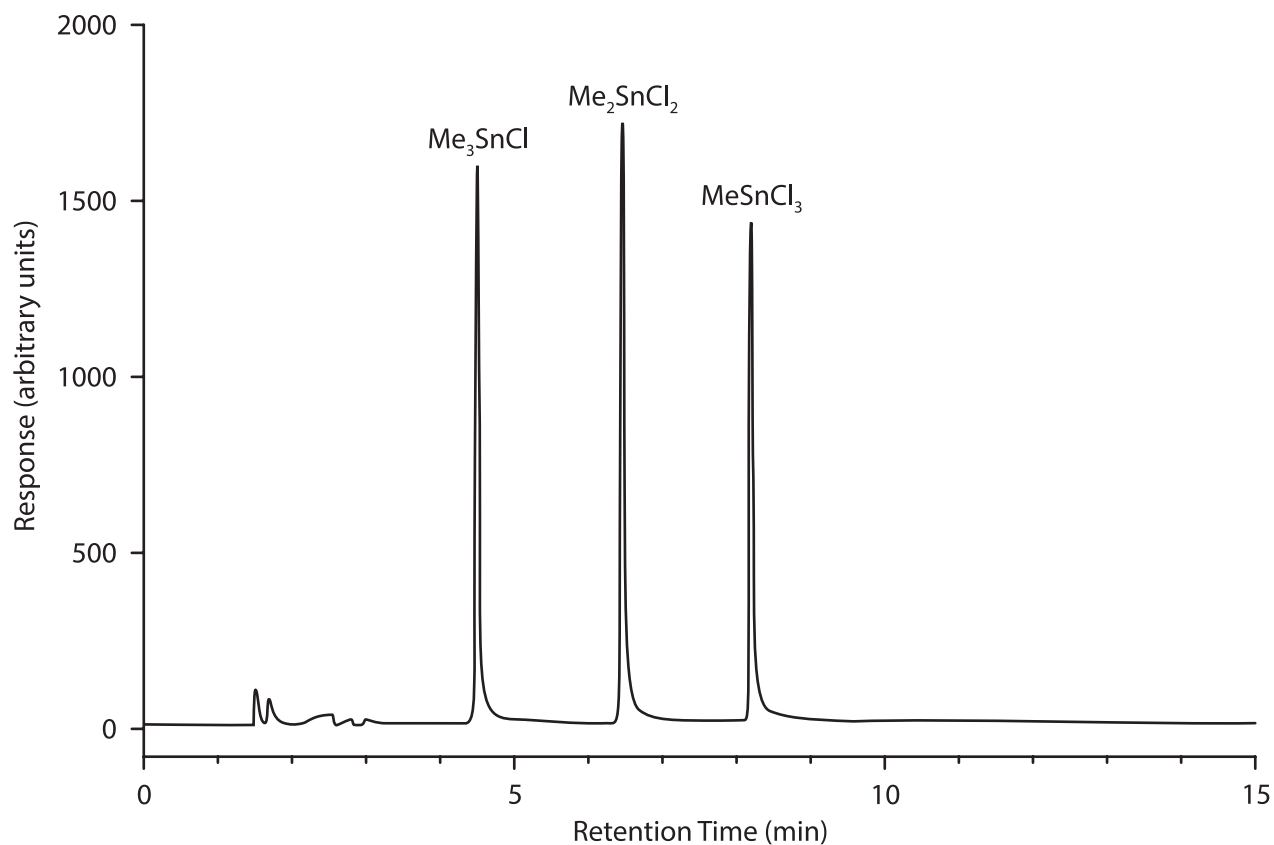

Figure 1. Sample chromatogram.
15. Measure the areas of the peaks of the methyltin chlorides. A sample chromatogram is shown in Figure 1.